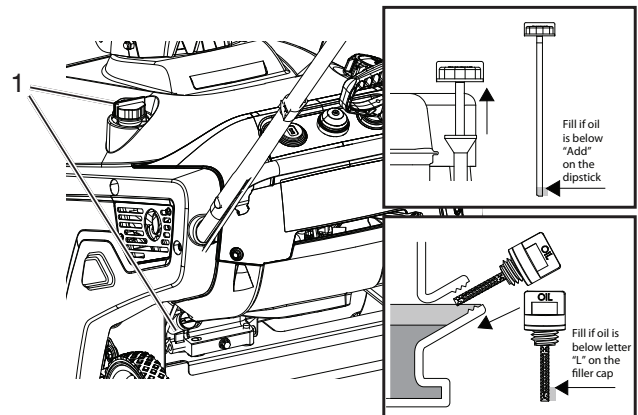

Figure 9
2. Clean around the dipstick (Figure 9).